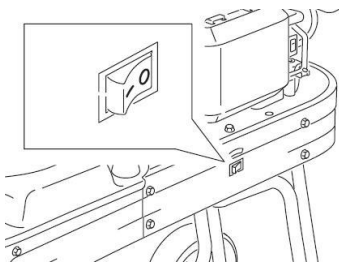

Fig. 5a
- Set the power switch to the “ON” position. (Fig. 5a)
- Set the power switch to the “OFF” position. (Fig. 5a)